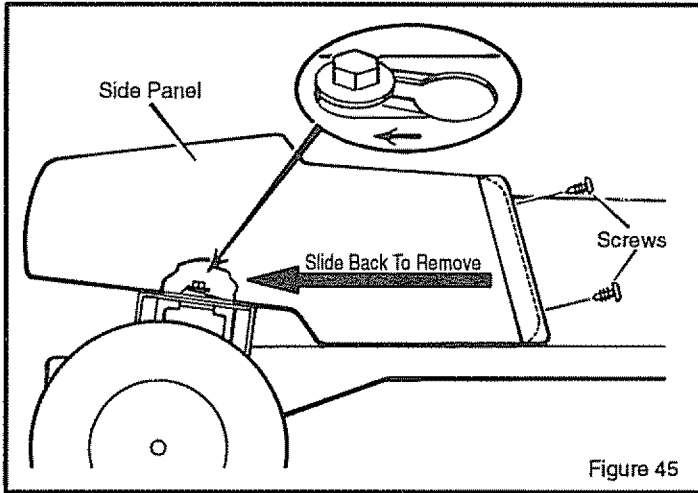

Figure 45
1. Remove the large screws that hold the front of the **side panel** (Figure 45)